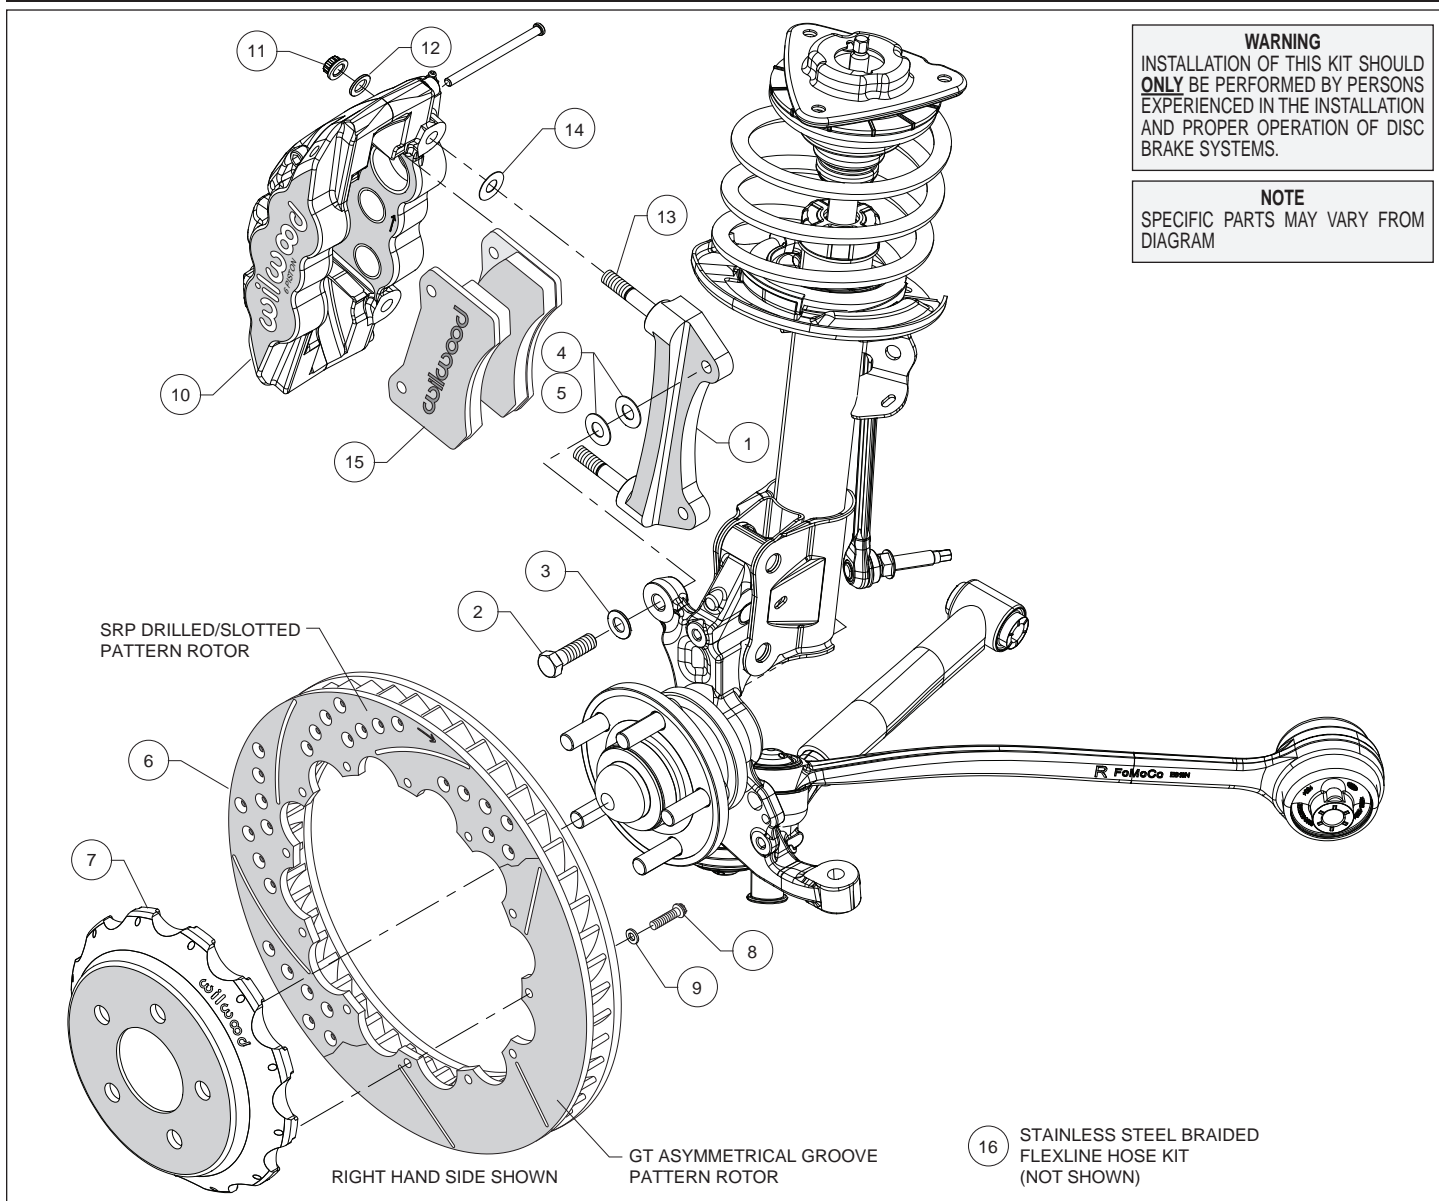
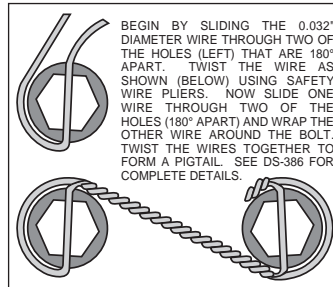

Figure 1. Typical Installation Configuration
Figure 3. Safety Wire Diagram
**Assembly Instructions** (numbers in parenthesis refer to the parts list and Figure 1 on the preceding pages):
- The caliper mount bracket (1) should initially be installed with clean, dry threads on the mounting bolts. Orient the bracket, as shown in Figure 1 and Photo 1, and install using bolts (2) and washers (3). Initially place two .033" thick shims (4) on each bolt between the bracket and upright, Figure 1. Temporarily tighten the mounting bolts. **NOTE: The bracket must fit squarely against the mount bosses on the upright.** Inspect for interference from casting irregularities, machining ridges, burrs, etc. Later, after the caliper alignment has been checked, the mount bolts will be secured using red *Loctite*® 271.
- Orient the rotor (6) and the hat (7) as shown in Figure 1 and Photo 2. Attach rotor to hat using bolts (8) and washers (9). Using an alternating sequence, apply red *Loctite*® 271 to the threads, and torque to 155 **in-lbs**. For an added measure of security, the bolts may be safety wired using standard 0.032 inch diameter stainless steel safety wire as shown in Figure 3. Refer to Wilwood's data sheet DS-386 for complete safety wire installation instructions.
- NOTE: This kit contains distinct right and left hand calipers that must be mounted in a specific direction, as described below.** Lubricate the caliper mounting studs (13) with lightweight oil. Initially place one .030" thick shim (14) on each stud between the caliper and the bracket, as shown in Figure 1 and Photo 4. Mount the caliper (10) onto the bracket (1) using lock nuts (11) and washers (12), Figure 1. Temporarily tighten the lock nuts. Ensure that the caliper is mounted so the largest pistons are at the rotor exit end of the caliper, in relation to the direction of the rotor. View the rotor through the top opening of the caliper. The rotor should be centered in the caliper, Photo 5. If not, adjust by adding or subtracting shims (4 and/or 5) between the bracket and the upright. Always use the same amount of shims on each of the two mounting bolts. Once the caliper alignment is correct, remove the bracket mounting bolts one at a time, apply red *Loctite*® 271 to the threads, and torque to 60 ft-lbs.
- Remove the two pad retaining pins from the caliper (10) by carefully popping out the pin retaining clips and sliding out the pins. Insert the brake pads (15) into the caliper from the bottom, Figure 1 and Photo 6. With the friction material facing the rotor, secure the brake pads in place with the pad retaining pins and clips, Photo 7. Reinstall the caliper onto the caliper mounting bracket and temporarily tighten the lock nuts. Check that the top of the brake pad is flush with the outside diameter of the rotor, Photo 8. If not, adjust by adding or subtracting shims (14) between the caliper and the bracket. After the caliper pad height is set, torque the caliper lock nuts (11) to 47 ft-lb.